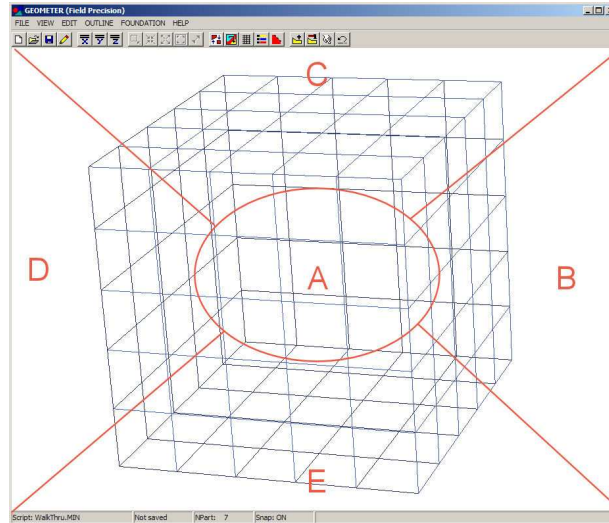

Figure 28: Active areas for mouse control of the 3D view.
The method to control the three-dimensional display with the mouse is the same as that in **MetaMesh**. Figure 28 shows the active areas of the screen. The cursor changes as you move between zones. The central zone (A) is used for zooming in (left button) and out (right button). Hold down the left mouse button in zones B, C, D and E to walk around the object. Hold down the right mouse button in zones B, C, D and E to move the viewpoint to the right, upward, to the left and downward. Note that changes are reflected in the orientation box in the upper-right portion of the screen. The plot is updated when you release the mouse button. You can control additional aspects of the three-dimensional view with the commands of the *Adjust view* popup menu.